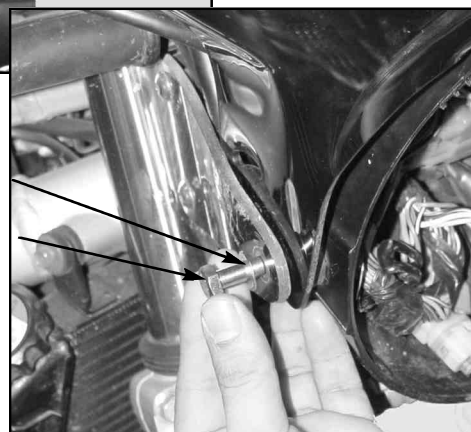

Figure 4
2. Re-install the headlight mounting screws and washers through the lower slots in the windshield. **Use the supplied M8 x 45 screws if extra length is needed. The M8 nuts are provided if they are needed. Figure 4.**